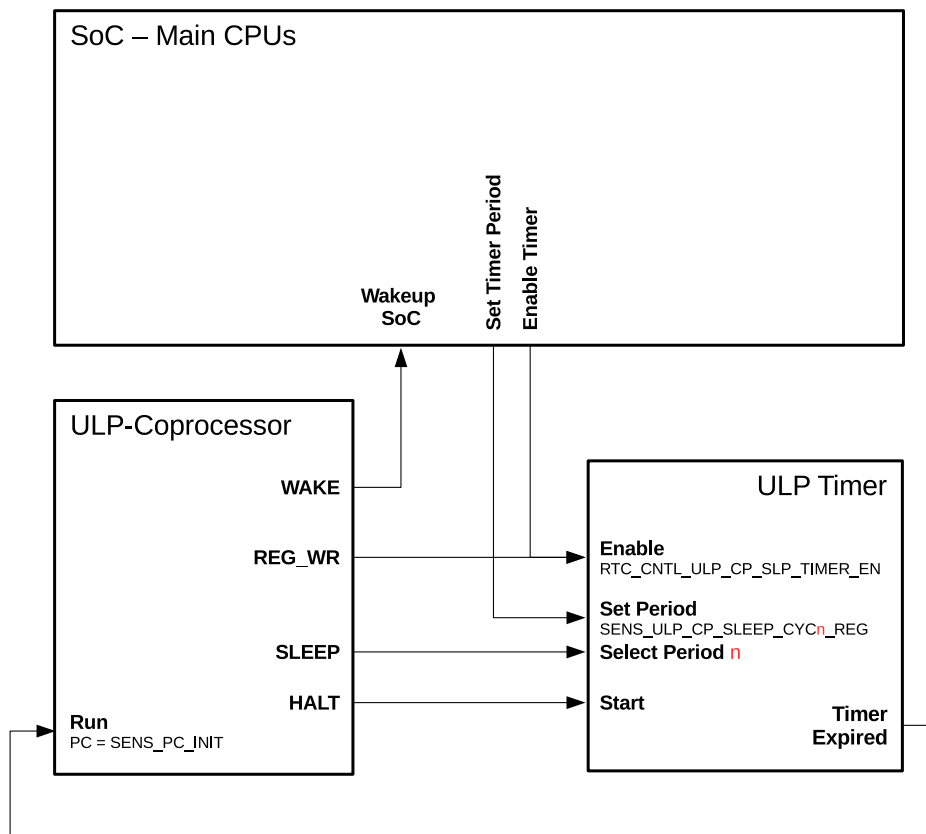

Figure 156: Control of ULP Program Execution
The ULP co-processor puts itself into sleep mode by executing the `HALT` instruction. This also triggers the ULP timer to start counting `RTC_SLOW_CLK` ticks which, by default, originate from an internal 150 kHz RC oscillator. Once the timer expires, the ULP co-processor is powered up and runs a program with the program counter (PC) which is stored in register `SENS_PC_INIT`. The relationship between the described signals and registers is shown in Figure 156.